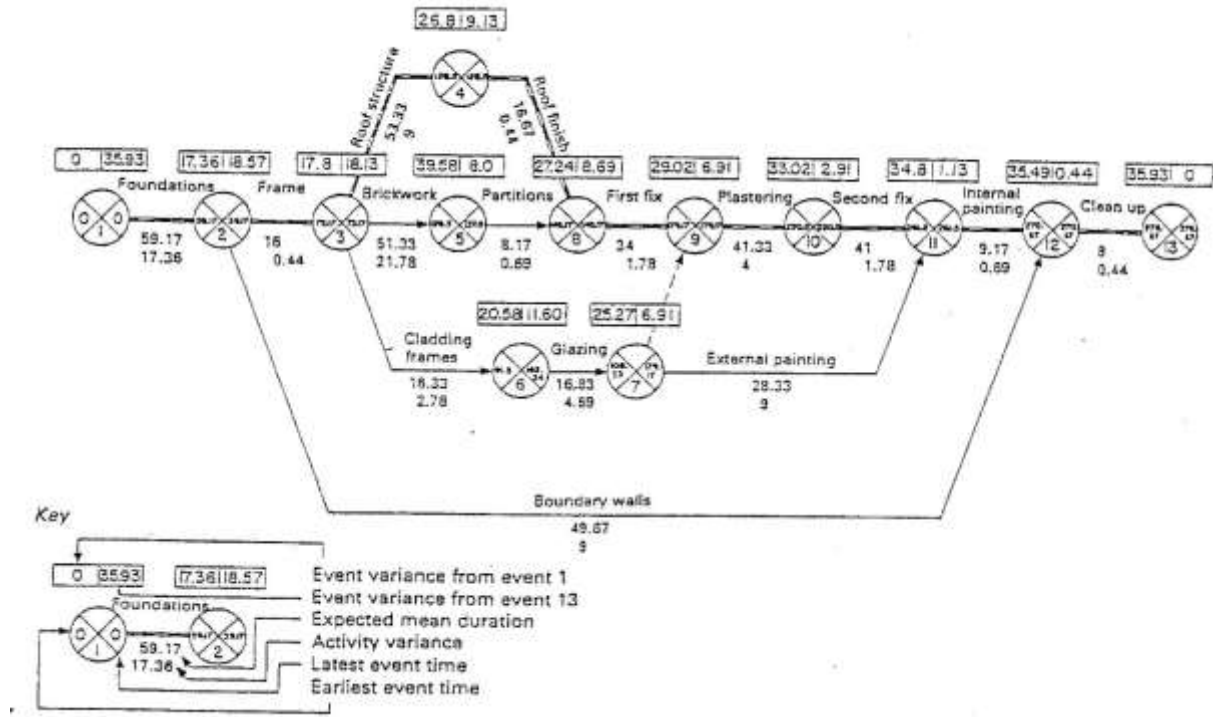

Figure 3. Arrow diagram of a building project example.
Figure 3 shows a building project, and Table 2 shows the three estimated activity durations for each activity, together with the calculated expected durations (d_e), standard deviation (σd_e) and variance (vd_e). The method of analysis is as follows.
5.- It can be seen from Figure 3 that the project duration is 278.67 days, and the variance of the last event is 35.93. With this variance, we calculate a standard deviation of 5.99.